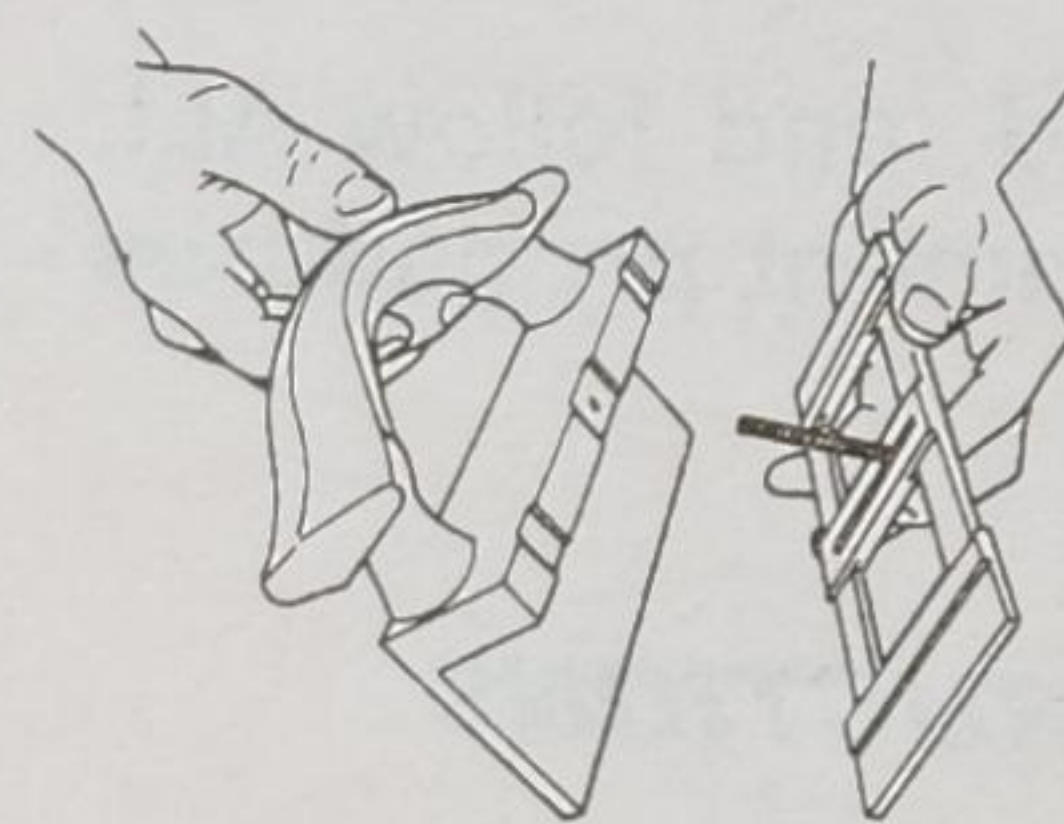

Figure A-4
15. See the exploded view on Page 3. Unscrew the fence straddler's knob (28) and remove the washer (30), machine screw (29), and slide rail (27) from the fence straddle block (26).
16. Transfer the slide rail (27) to the other side of straddle block and reassemble with the screw, washer and knob, as shown in Figures A-4 and A-5.